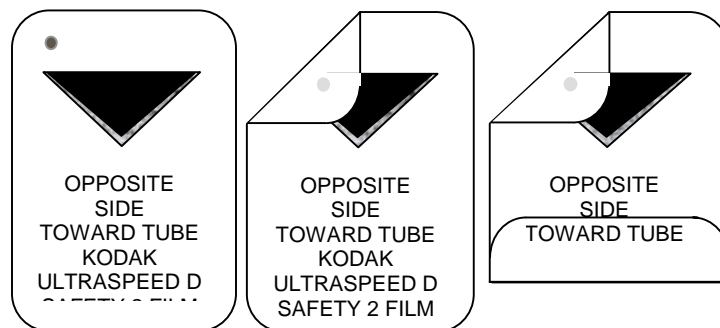

Figure 1-4. The film packet bent in two areas.
1. IIIa Place a film packet over some metal screening on top of a block of wax. Cover the film with a block of 0.3 cm lead and make the exposures shown below. (Figure 1-4)